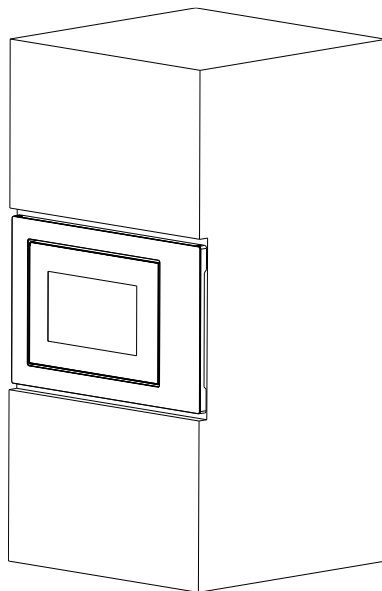

Fig.2
b) Push the microwave oven till to the end. (Fig.2)